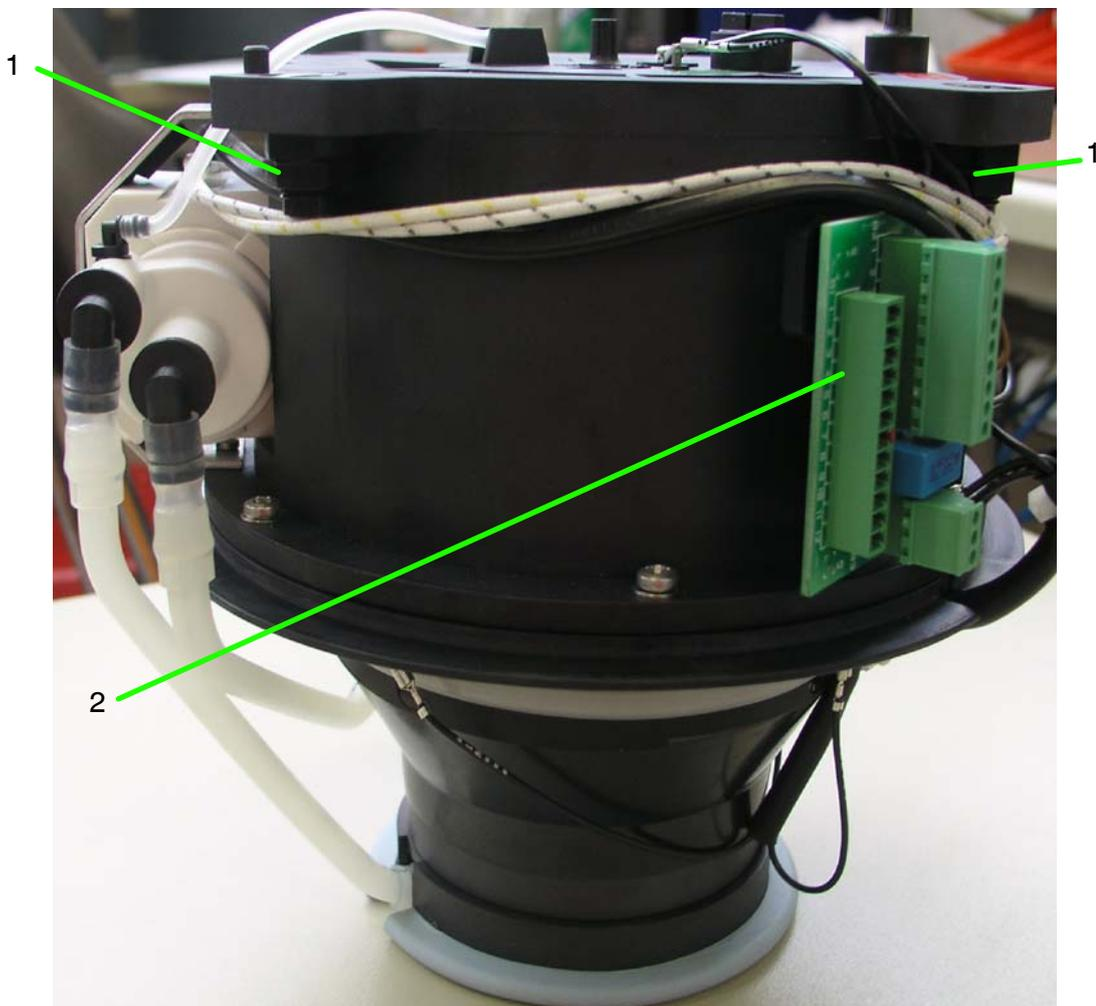

Figure 66: Dismantling the outer sphere
- Remove the plug from the outer sphere (see Figure 66/2).
- Place both hands (see Figure 66/1) under 2 of the 4 snap closures and release them by pressing with the thumbs.